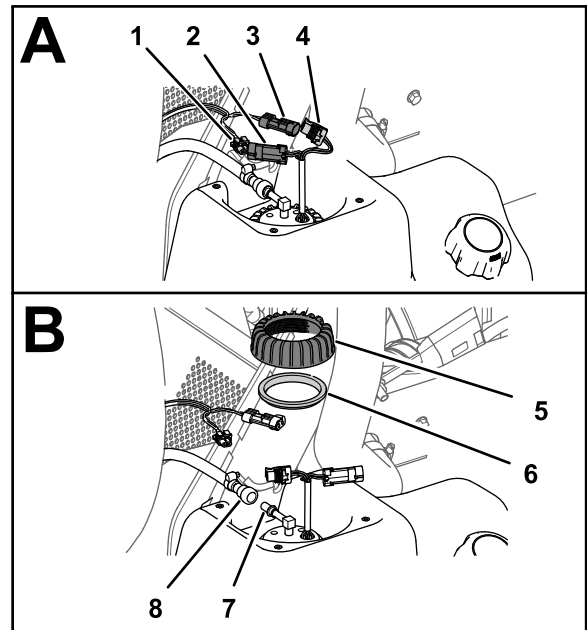

Figure 87
connector of the fuel pump/sending unit (Figure 87).
2. Slide the locking sleeve of the fuel-hose coupling away from the fitting of the fuel pump/sending unit and remove the coupling and hose from the fitting (Figure 87).
3. Rotate the nut for the fuel pump/sending unit counterclockwise and remove the nut and seal (Figure 87)